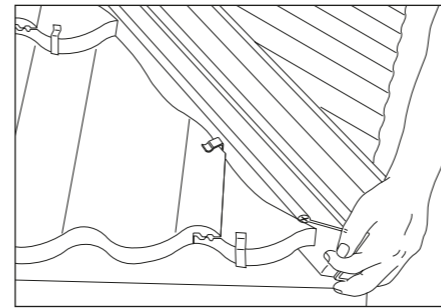

Fig. 6 - Locate hip batten section between cut tiles
- 8 Locate batten section assembly into gap between cut tiles up length of hip. Two or more lengths may be joined together up hip, ensuring that closed cell foam rubber strip from each section abuts tightly to prevent water ingress (Fig. 6).